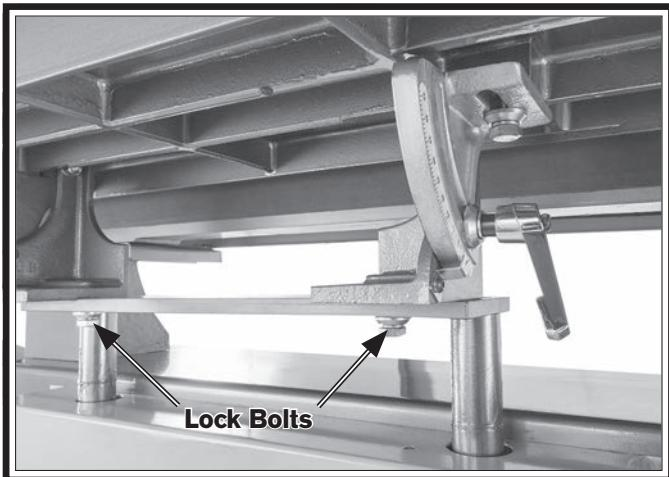

Figure 22. Location of main table lock bolts.
- 12.** Loosen lock bolts shown in **Figure 22**, push table so there is $\frac{1}{16}$ " or less between table and sandpaper, then tighten bolts.